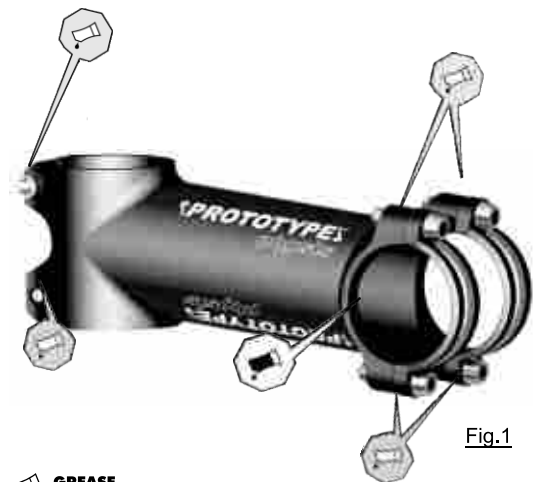

Fig.1
STEP 1 - Carefully remove all stem bolts and lubricate the threaded holes, not the bolt threads, with light grease. This assures that all threads are lubricated. - (fig. 1).